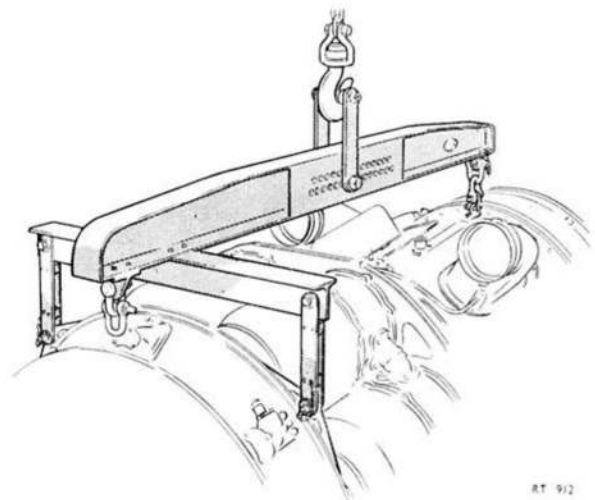

Fig. 1. Engine change unit sling
6. The universal handling sling J.47623 (*Stores Ref. 46/4783*) and the method of attachment to the E.C.U. are illustrated in fig. 1. The slinging hook attachment is bolted to the fore and aft beam of the sling. Several alternative attachment positions are provided, but the sling may not necessarily be suitable for installing the engine in a particular aircraft. The sling specified in the relevant aircraft Air Publication should be used.